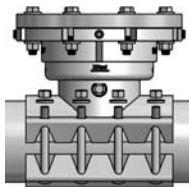

Figure 3
7. Install the bottom half of the line stop fitting over the tapered ends of the mat gasket ensuring they are flat and smooth against the pipe surface. Visually inspect gasket to ensure tapered ends are not folded or rolled under themselves. Install stainless steel bolts, washers and nuts (See Figure 3). Finger tighten, ensuring gaps between top half and bottom half of the line stop fitting are the same front to back and side to side (within 1/8"). **NOTE:** It is acceptable to invert the middle two bolts on each side of the 4" line stop fitting to utilize a socket wrench for installation.